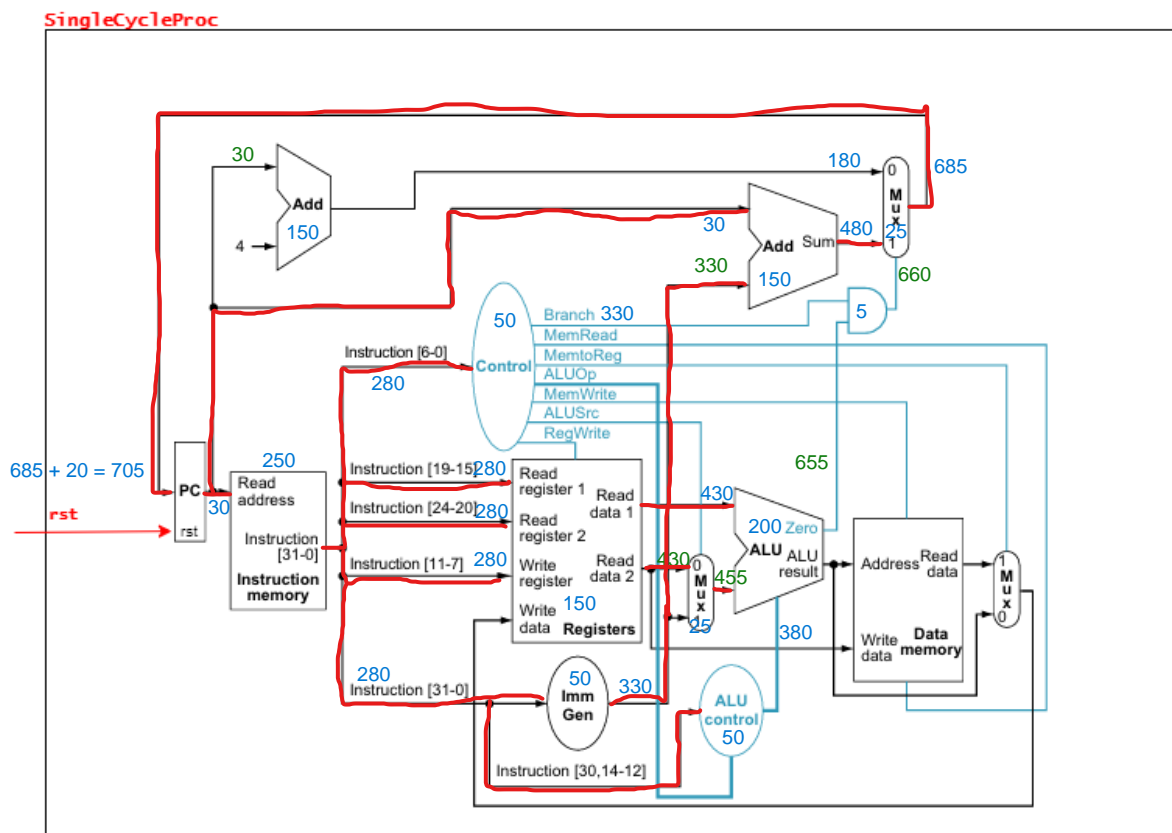

Figure 3.1: Datapath of A Single Cycle Processor
In the first part of this lab, you are required to code the datapath as well as the control part for a single-cycle processor shown in figure 3.1 to execute the `add`, `sub`, `and`, `or`, `lw`, `sw`, `beq` and `addi` instructions. The code for functional units of the datapath was written in the last two labs. In this lab you have to just connect the functional units like PC, Register File etc. and implement the control part.
1. Draw the datapath shown in figure 3.1 using draw.io